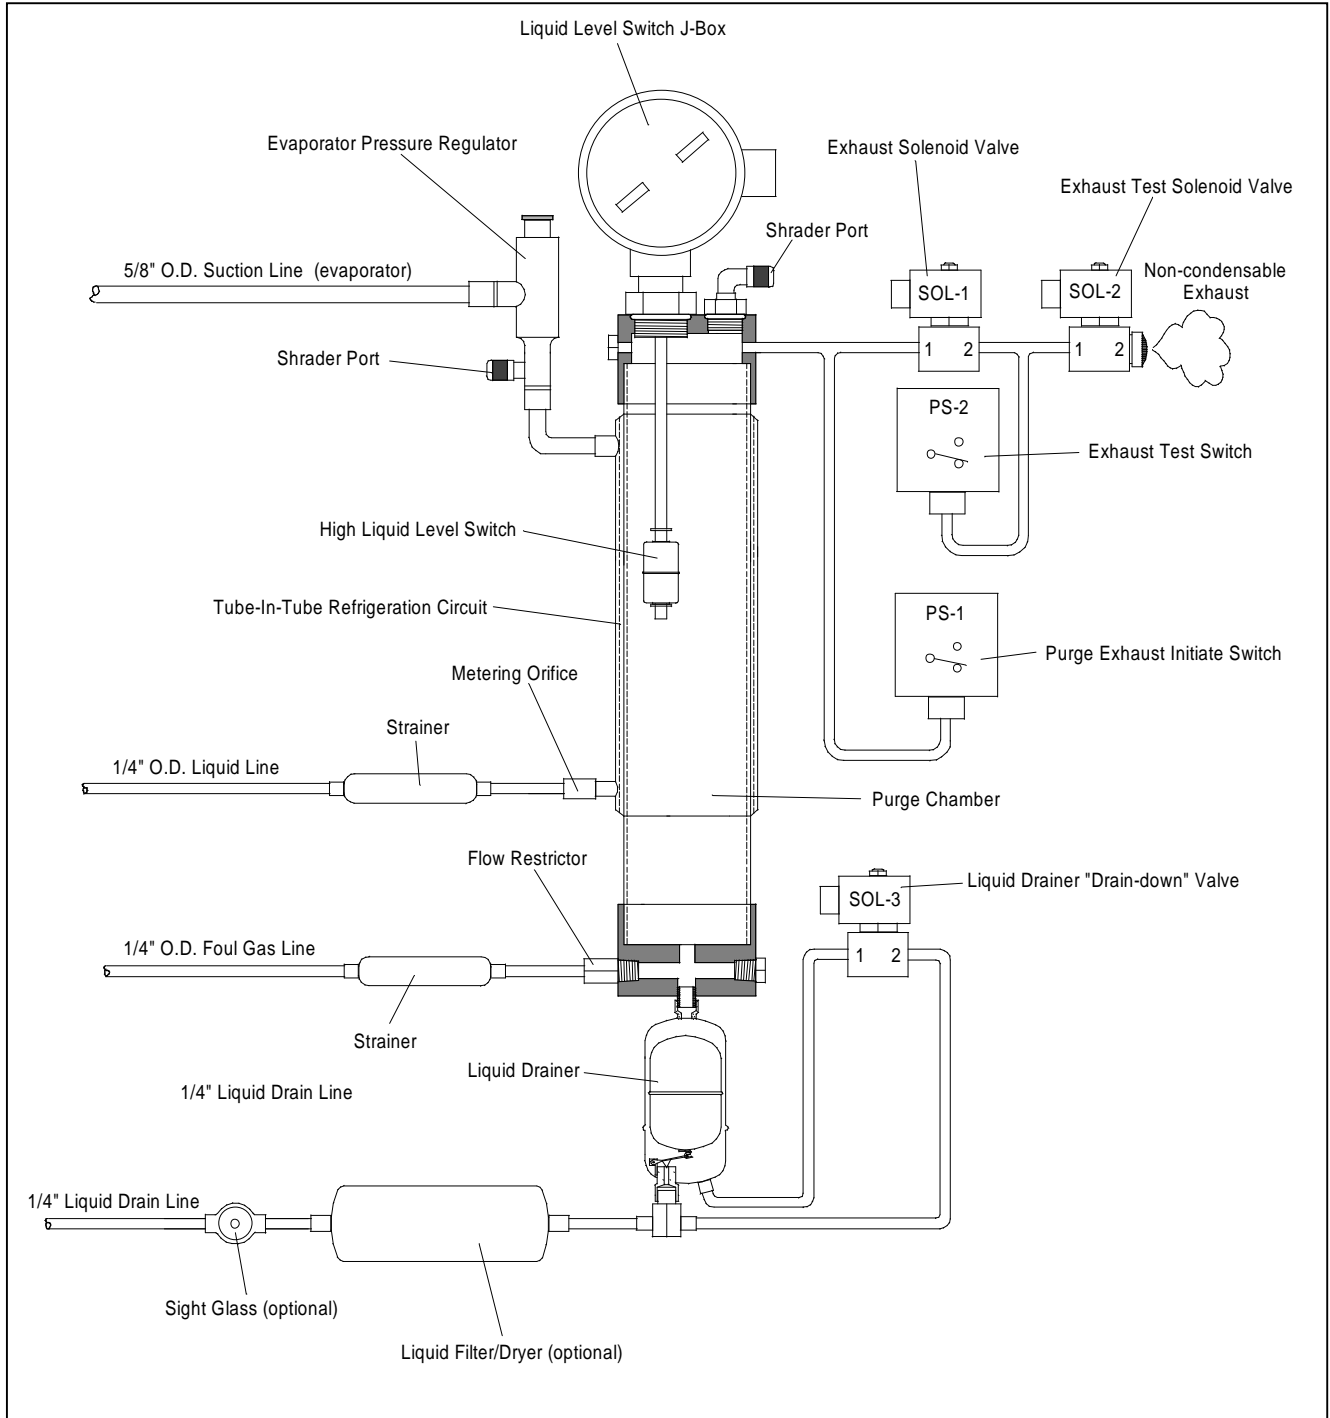

Figure 3 – Flow Schematic
2. Using ¼" O.D. copper tubing, plum from a point on the chiller condenser, pipe or other appropriate location having an isolation valve capable of supplying high pressure liquid refrigerant to the Purger's ***inlet metering orifice***. In this line install one of the two ¼" Stainless Steel Strainers furnished with the purger. (See Figure 3 page 19).
5. Using ¼" O.D. copper tubing, plum from the chiller condenser foul gas pick-up point to the Purger's ***inlet flow restrictor*** located at the bottom of the purge chamber. (See fig. 3 page 19) Install the second ¼" Stainless Steel Strainer, provided with the purge unit, in the pick-up line near the inlet port. An isolation valve must either be provided at the chiller condenser itself or in the foul gas line between the condenser and the purger (See Figure 1 Page 10).